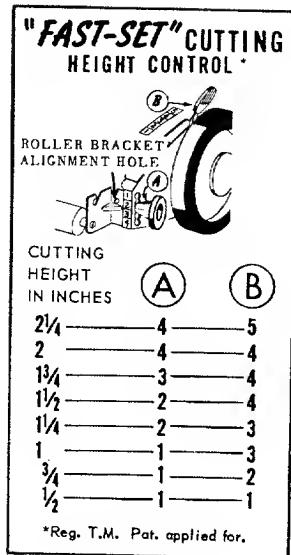

FIG. 3A
1. Consult the chart located on underside of handle cover, the roller adjusting knobs (A) and wheel adjusting levers (B) must be in positions shown for desired cutting height. EXAMPLE: for 1 1/2" cutting height roller knob must be in No. 2 position, and wheel lever must be in No. 4 position. (Fig. 3 and Fig. 3A)